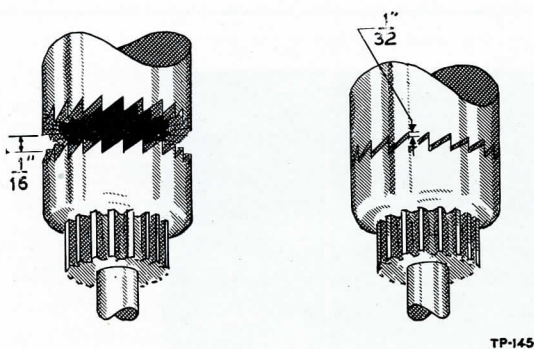
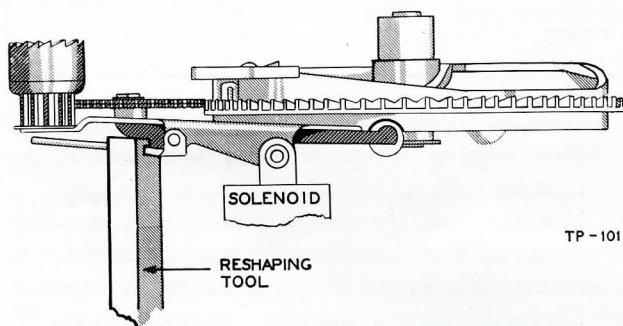

FIGURE 31. CLUTCH-GEAR CLEARANCES
FIGURE 32. RESHAPING CLUTCH-LEVER ASSEMBLY
1. With the clutch lever in its normal position, that is, with the roller in the recess of the cam, the clearance between the teeth of the two gears must be $1/16$ ", figure 31. The proper clearance is obtained by reshaping the clutch-lever bracket, as shown in figure 32.
3. With the roller in this position, the upper and lower clutch gears are in mesh. As it is very important that they do not interlock too tightly, there should be a clearance of approximately $1/32''$, as shown in figure 31. The reason for the clearance is to prevent the two gears from jamming and then hanging together after the change cycle is completed. The clearance also prevents the turntable from being lifted during the operation of the solenoid.